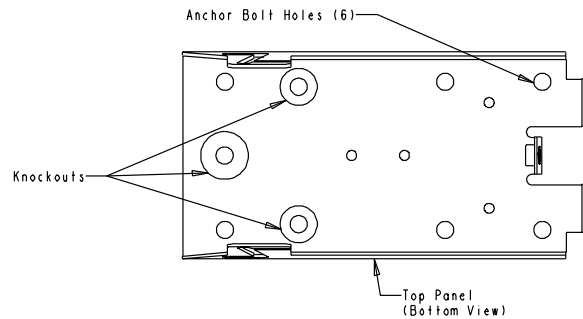

Figure 4: Bolt Holes and Knockouts
4. Decide how the wiring will be routed to the unit. Two knockouts for 3/4 inch conduit and one knockout for 1-1/4 inch conduit are provided. **See figure 4.**